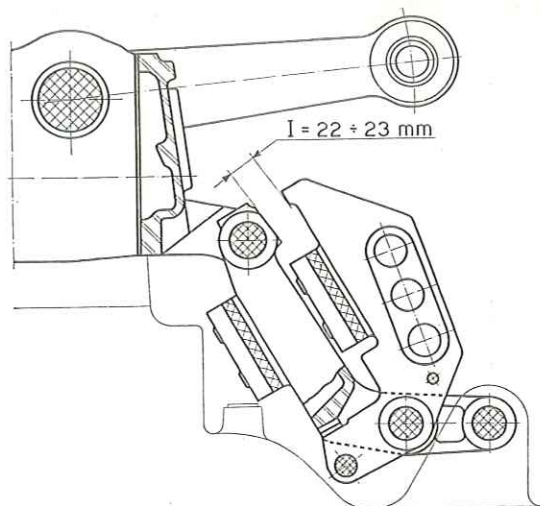

Fig. 55. - Checking play I between upper link support and lift cover.
- d) *Setting the top link support spring (M)*: should reconditioning or replacement of parts be required check the clearance (I, fig. 55) between top link support and lift cover to be 0.866" to 0.905" (22 to 23 mm), if not vary the number of adjusting shims (H) installed between the spring and its support. To check the play use the end of smallest block of the «go-no go» gauge C 497015; the other end of the gauge may be used in the preceding check to keep the support in the position reached when the play is taken up to check the distance between roller and sector applied to the right arm.